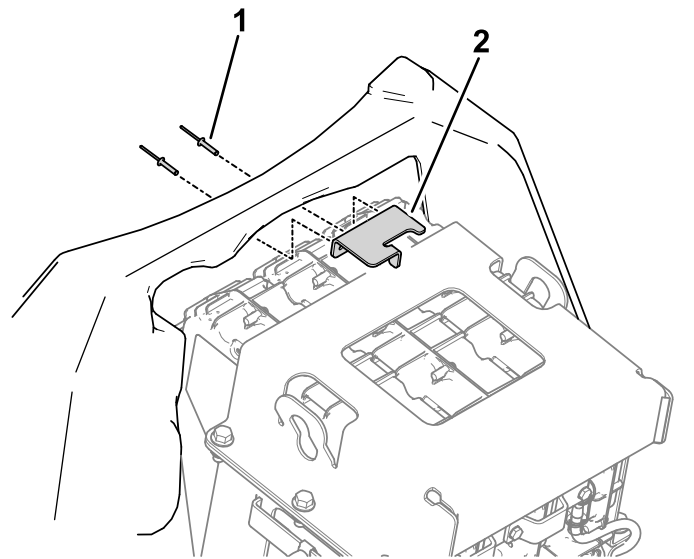

Figure 53
4. Use 2 rivets to secure the latch bracket to the battery cover (Figure 53).